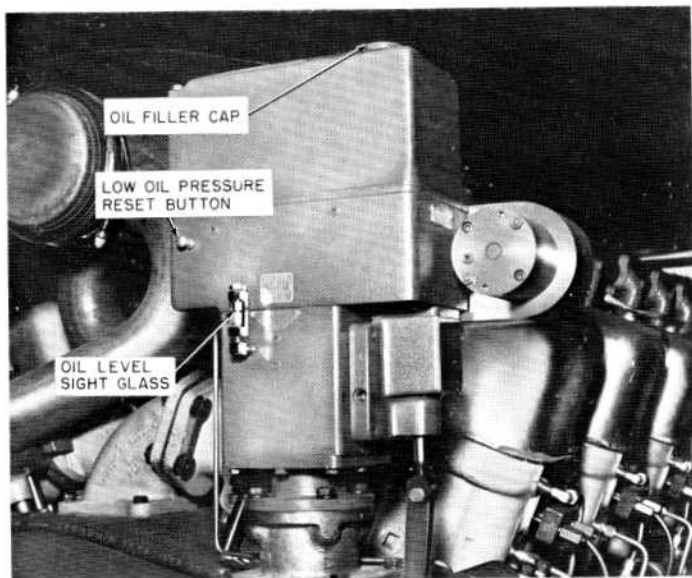

FIG. 12 - ENGINE GOVERNOR - PGR
Maintain oil level for PGR governor between lines on sight glass while engine is running (Fig. 12). The MG8 governor has two sight glasses. The oil level should not be below line on lower glass and not above line on top glass.
3. Reset shutdown plunger on PGR engine governor. Alarm bell will be silenced (see Fig. 12).